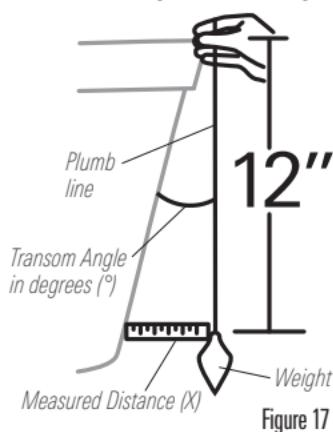

Figure 17
- 1b. If you do not know your transom angle, measure it using a plumb line (weighted nylon string or monofilament line) exactly 12 inches long. Hold the top of the plumb line against the top of the transom with your finger, and wait until the line hangs straight down (Figure 17). Using a ruler, measure the distance from the **bottom** of the plumb line to the back of the transom, then use the chart (Figure 16).
**NOTE:** It is important to take your measurement in the location shown in Figure 17, from exactly 12 inches down from the top of the transom.